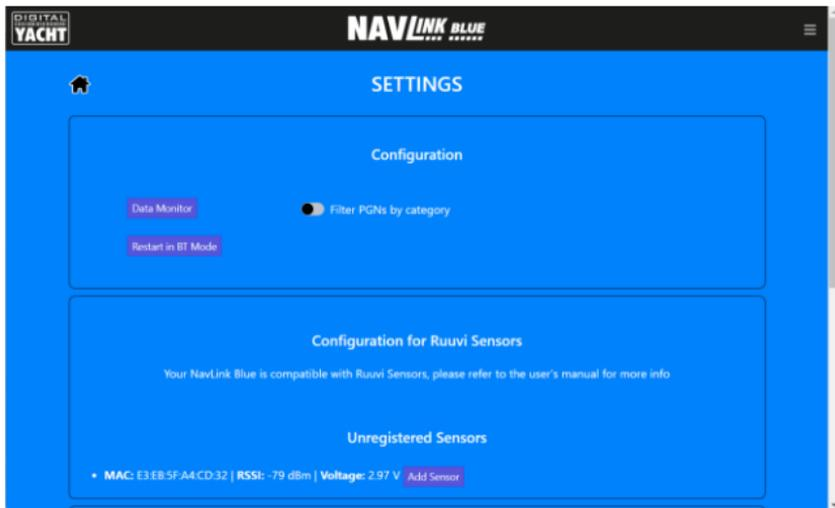

Figure 2
- To complete setting up the Ruuvi sensors that the NAVLink Blue detected in section 3.3, you need to access the SETTINGS page by clicking the SETTINGS button on the Home Page. You should see the SETTINGS page shown in Fig 2.